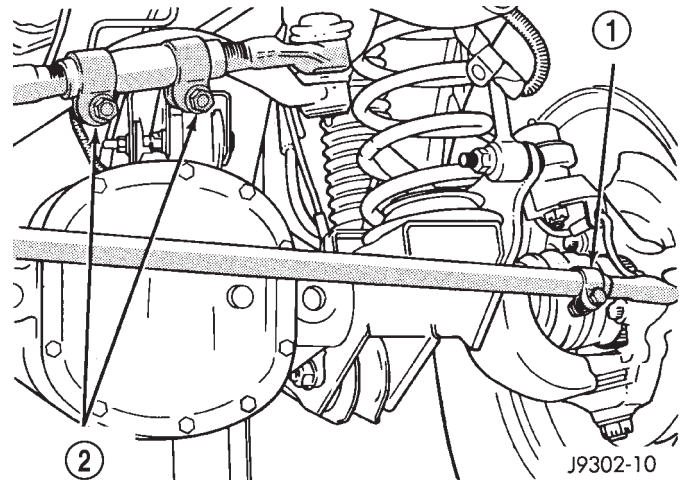

Fig. 4 Drag Link and Tie Rod Clamp (LHD)
bolts as shown (Fig. 4) and tighten to 49 N·m (36 ft. lbs.).
(4) Adjust the left wheel toe position with the tie rod. Turn the sleeve until the left wheel is at specifications. Position the clamp bolts as shown (Fig. 4) and tighten to 27 N·m (20 ft. lbs.).